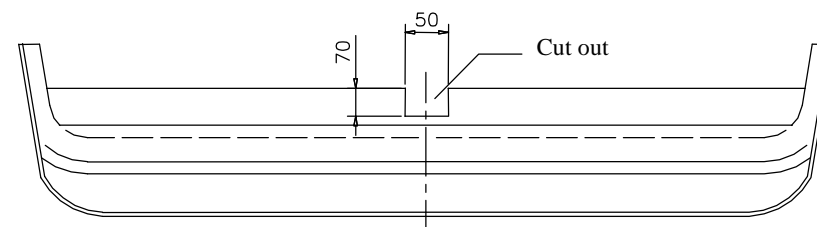

Fig. 2
3. On the left and right side put to chassis members brackets (pos. 4 and 5) in this way so elongated holes tally with plastic pin protruding from floor and next through holes (pos. A, B, C) drill holes $\phi 11$ mm.
4. Bracket (pos. 5) screw through hole (pos. C) using washers (pos. 10) and bolts M10x30mm (pos.9).
5. Put main bar of towbar (pos. 1) to mounted brackets (pos. 4 and 5), through holes (pos. A and B), washers and plates (pos. 6) screw with chassis member using bolts M10x50mm (pos. 8) from towbar accessories.
6. Through holes (pos. D) drill holes $\phi 11$ mm and next screw with bolts M10x30mm – pos. 9 (use washers $\phi 35 \times \phi 12 \times 3$ mm – pos. 10).
7. Fix tow-ball (pos. 2) and socket plate (pos. 3) using bolts M12x75mm (pos. 7) from accessories.
9. In central part of the bumper cut out fragment 50x70mm as shown in the fig. 2.